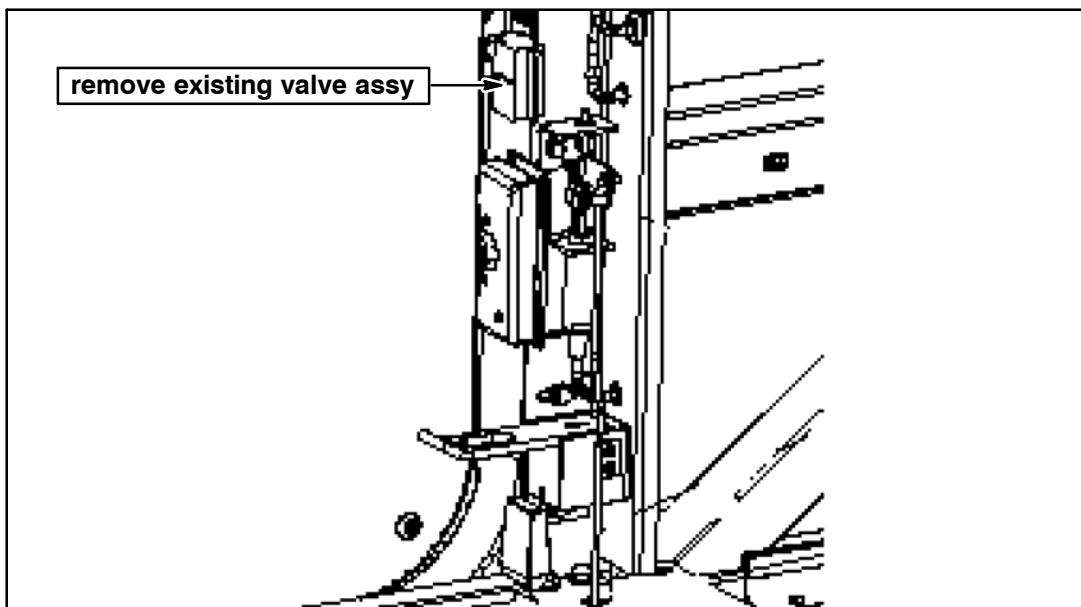

Figure 14.
18. Locate and remove the existing valve assy–door (refer to Figure 14).
- Starting at the lower, RH side of upper door (refer to Figure 14),